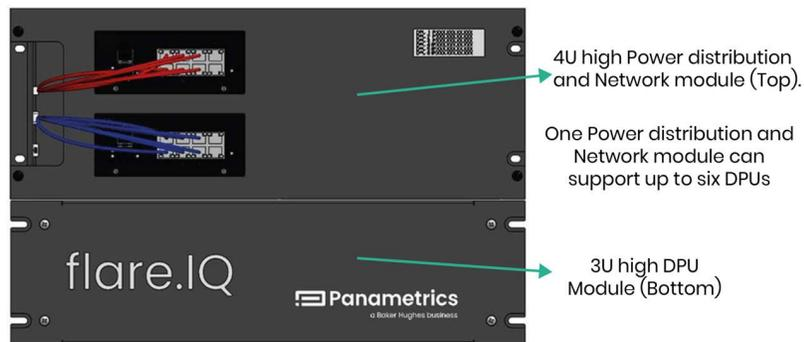

Figure 2: Front view of Rack mounted Control equipment
The system hardware includes two 19" rack mounting sheet metal modules that house compact fanless Digital Processing Units (DPU), redundant power supplies, a pair of Ethernet switches and other power distribution equipment and cables. The top power distribution and networking module is shared with up to six DPU modules installed in the bottom module (Figure 2). A single DPU module is configured to control a single flare stack while a second DPU module loaded with identical firmware and settings provided for redundancy. However, a single DPU is adequate for digital verification of a single flare flow meter given the relatively low frequency of this procedure. Similarly, a single DPU is also adequate for CE/DRE monitoring of a single flare, assisted or non-assisted. The redundancy option might become necessary for flare PEMS as well in case flare.iQ becomes part of a fiscal measurement, custody transfer or carbon tax monitoring system in the future. For example, if a customer site has two flare stacks that need to be controlled, one power distribution and network (top) module and a bottom module with four (4) DPUs installed would be required. The power distribution and networking module weighs 8.65 lbs. (3.92 kg) and the bottom DPU module with the maximum number (6) of DPU's installed weighs 8.55 lbs. (3.88 kg).